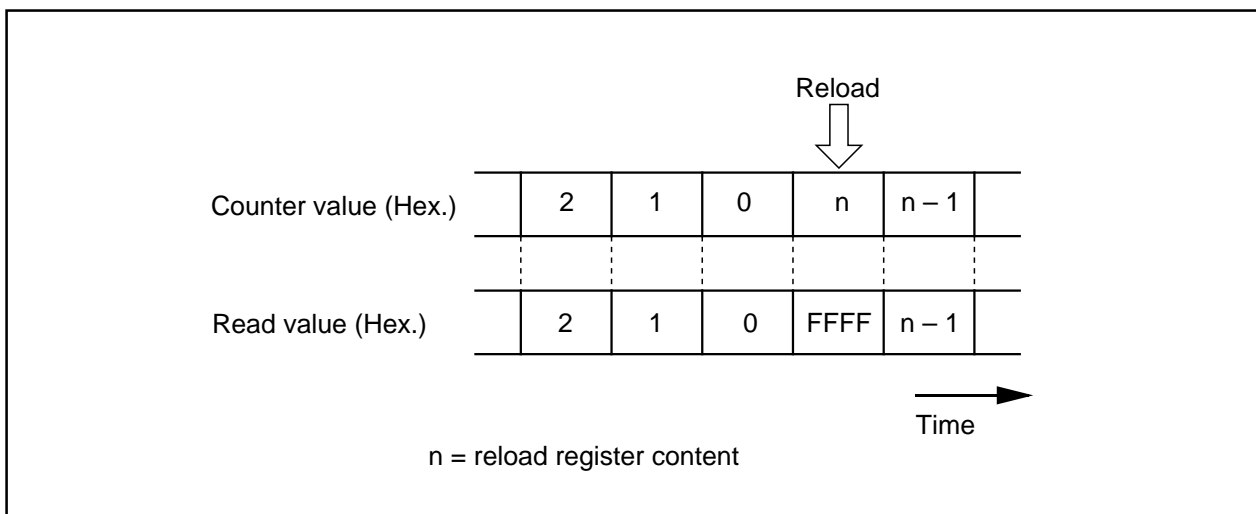

Figure 2.2.28. Reading timer A0 register
- (1) To clear reset, the count start flag is set to "0". Set a value in the timer A0 register, then set the flag to "1".
- (2) Reading the timer A0 register while a count is in progress allows reading, with arbitrary timing, the value of the counter. Reading the timer A0 register with the reload timing shown in Figure 2.2.28 gets "FFFF16". Reading the timer A0 register after setting a value in the timer A0 register with a count halted but before the counter starts counting gets a proper value.